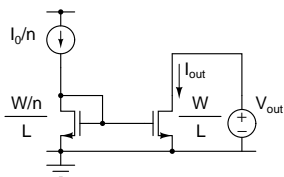

Figure 2:
- You are required to design a current mirror that can operate with an output voltage V_{out} and deliver a current I_{out} (Fig. 2). What operating conditions will you choose for the devices to minimize the output noise? (consider only the thermal noise spectral density). You try to minimize the reference branch current by scaling it down by a factor of n . What is its implication on the output noise?